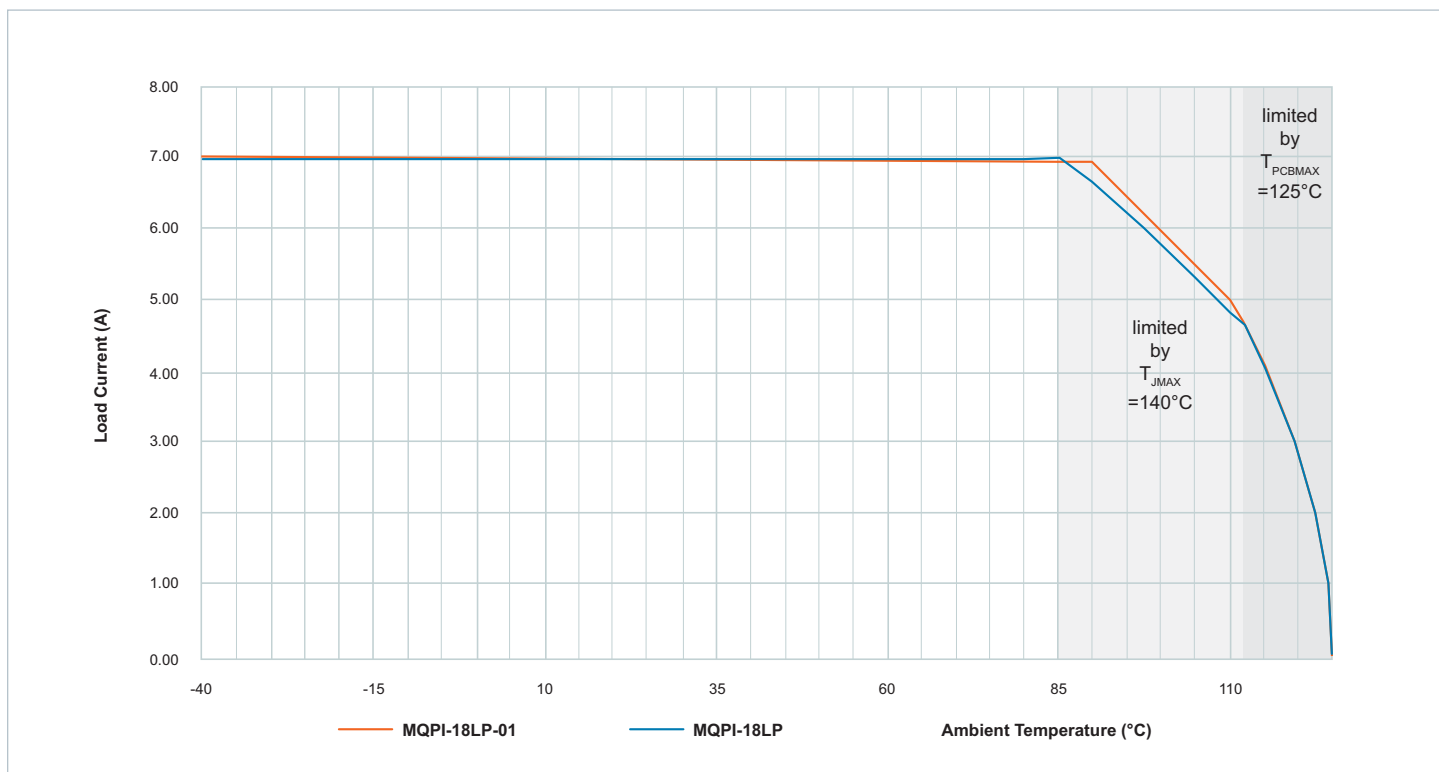

Figure 4 — Current de-rating over ambient temperature range
- -55° to +125°C PCB temperature (see Figure 4)
^[c] See Figure 4 for the current de-rating curve.